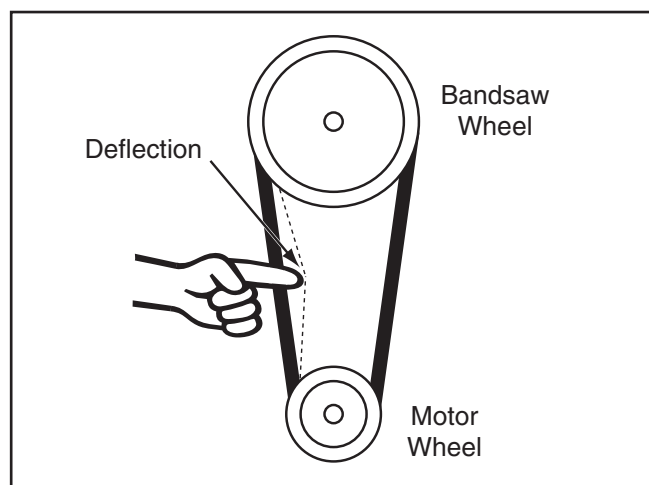

Figure 53. Belt deflection.
3. Check V-Belt deflection. V-belt is properly tensioned if there is approximately $\frac{1}{4}$ " deflection. Deflection is checked by pushing V-belt with moderate pressure, as shown in **Figure 53**, and noting how much it moves.